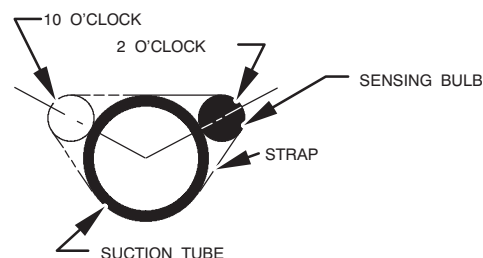

Fig. 23 – Position of Sensing Bulb
8. Attach TXV bulb to horizontal section of suction line using clamps provided. Insulate bulb with field-supplied insulation tape. See Fig. 23 for correct positioning of sensing bulb.
9. Reinstall TXV support clamp (removed in item 3).
10. Attach TXV bulb to vapor tube inside cabinet, in same location as original was when removed, using supplied bulb clamps (nylon or copper). See Fig. 23 for correct positioning of sensing bulb.
8. Reinstall TXV support clamp (removed in item 3). (N coils only.)